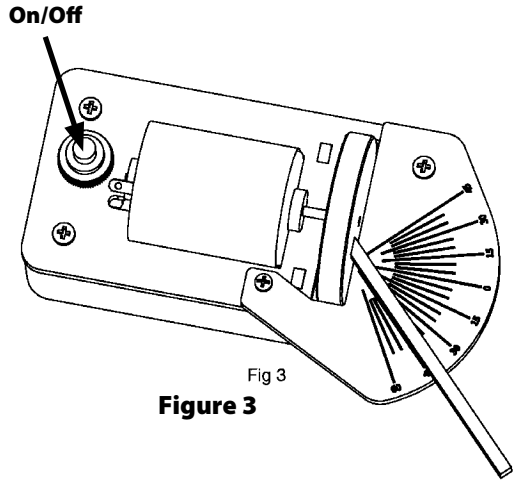

Figure 3
3. Push the On/Off button to turn on the sander. (See Figure 3.)
5. Carefully push your material into the sandpaper. Do not force the material as you may cause the sander motor to stop. Push your material into the sander until you reach the mark. See Figure 3.